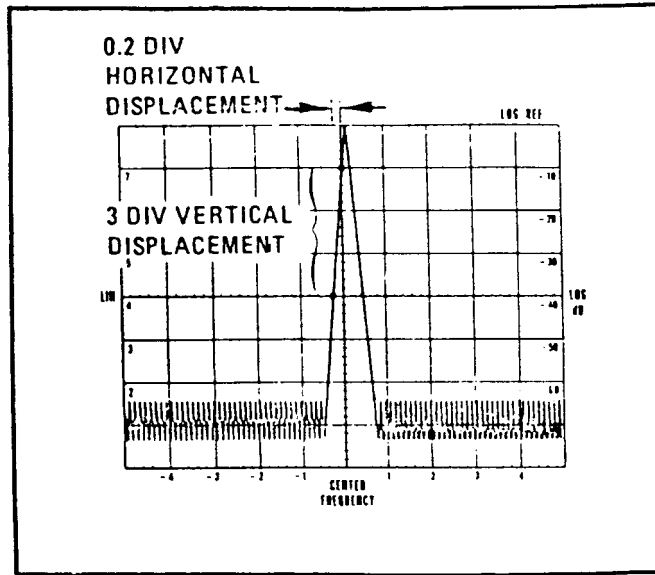

Figure 10. Local oscillator stability.
(2) Position IF plug-in controls as listed in (a) through (f) below:
(3) Adjust **FREQUENCY** control until upward slope of signal pip intersects **CENTER FREQUENCY** graticule line one division from top graticule line as shown in figure 10. Note where slope of display intersects center horizontal graticule line.